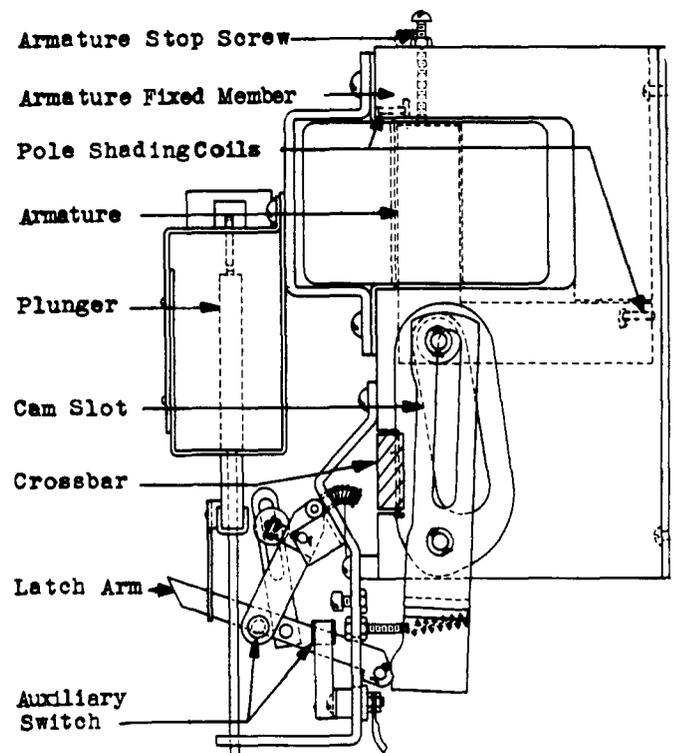

Fig. 12 - Operating, Tripping and Latch Mechanism
(1) With the ac service to the switch disconnected, slowly raise and lower the armature by hand with a screwdriver from underneath. Note that it does not bind, remembering that as the brush starts to make contact more effort will be required to raise the armature.
(2) For switches equipped with tripping and latch mechanism raise the armature slowly as before to close the switch. Hold it closed and raise the tripping coil plunger by hand to lockup the main contacts and open the operating coil auxiliary switch shown in Fig. 12. If pushing up the plunger does not cause the main switch to lock up, check the clearance requirements to be sure that the armature stop screw is not screwed down too much, which would prevent the armature shaft from rising sufficiently to engage the lock on the latch mechanism.
(3) With the armature locked up by the latch mechanism, slowly lower the plunger by hand and note that by its own weight, it releases the contactor and closes the auxiliary switch. In case the auxiliary switch does not
(2) If the contactor switch fails to close, check the various connections and that the auxiliary switch is closed. Test the operating coil circuit with a voltmeter. Be sure to remove the ac supply while making connections. Place the voltmeter across the terminals of the coil and note that the mercury tube in the time delay relay closes the circuit. No reading on the voltmeter indicates an open in the operating coil circuit. Tighten the connections. If the coil circuit is satisfactory place the meter in series with the coil winding. No reading on the meter with the mercury tube switch closed indicates an open in the coil. Replace the coil.
(3) In case the contacts close but fail to lock up due to the tripping coil not operating check that the tripping coils and connections are satisfactory similar to checking the operating coil. If the plunger rises, check that the armature stop screw is not screwed down too far or that the brush contacts are adjusted for too great a pressure to allow the armature to close completely. Check also that the spring holds the lock against the latch as shown in Fig. 12.